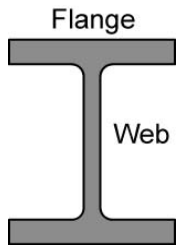
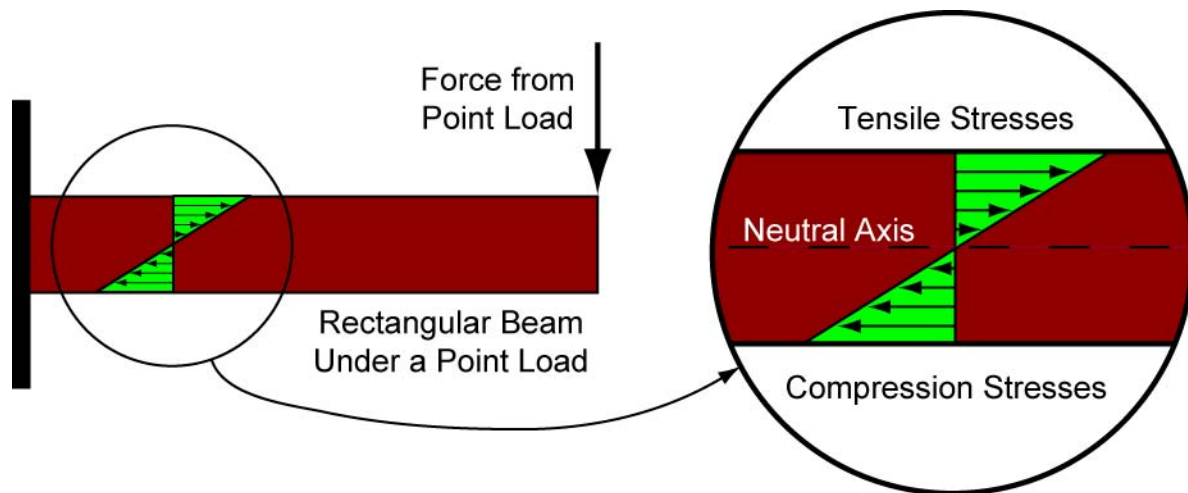

Figure 3: I-Beam
Figure 4: Beam Under a Point Load and the Related Stresses
- A beam under bending experiences high tension and compression stresses along the outside fibers that are farthest from the neutral axis (see Figure 4). The beam material close to the neutral axis carries little of the load so it should be minimized which eliminates much of the weight. To prevent failure, most of the material in the beam must be located in the outer regions. This observation is the basis of the I-beam cross-section; the neutral axis runs along the center of the web which can be relatively thin and most of the material can be concentrated in the flanges (Figure 3).